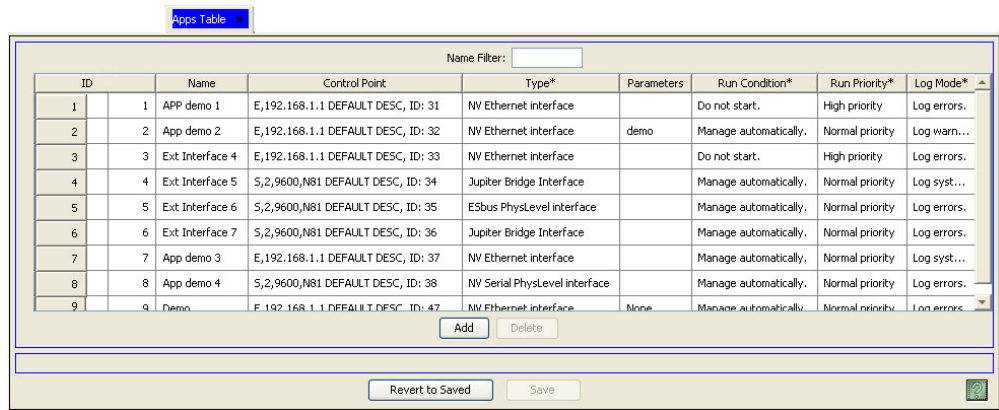

Figure 14-4. Apps Table
- 2 From the Navigation area, select the 'Views' pane and then 'Apps'. The 'Apps' table appears, as shown in Figure 14-4.